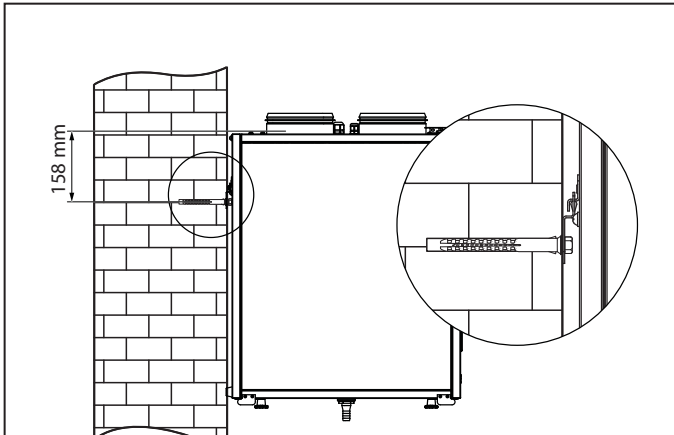

Fig. 8. Unit wall mounting
**UNIT WALL MOUNTING (Fig. 8).**